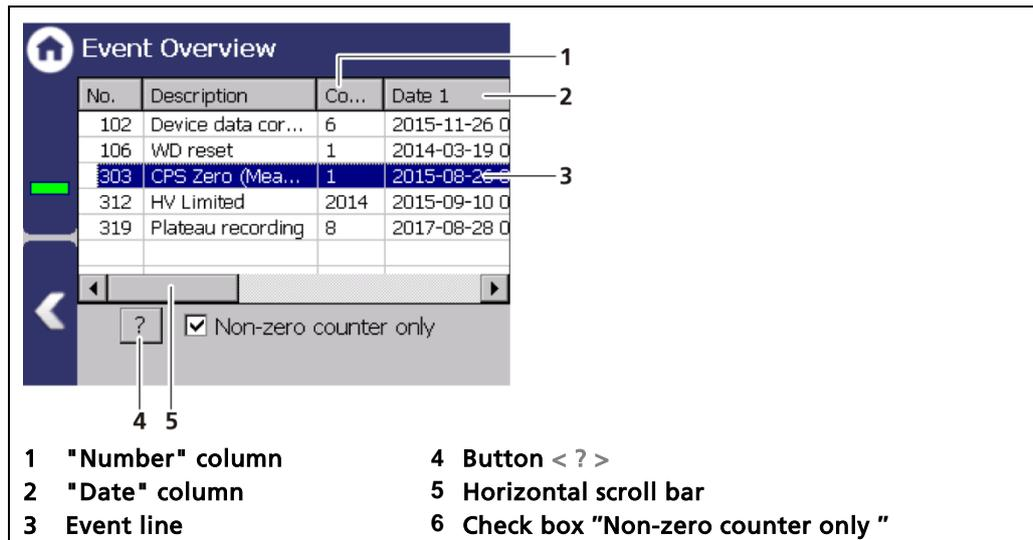

Fig. 77 Event overview
1. Click on a line in the list (Fig. 77, item 4).
2. Click on <? > (Fig. 77, item 7).
4. Slide the bar of the horizontal scroll bar (Fig. 77, item 6) to the right to see at what times (date, time) the event occurred.